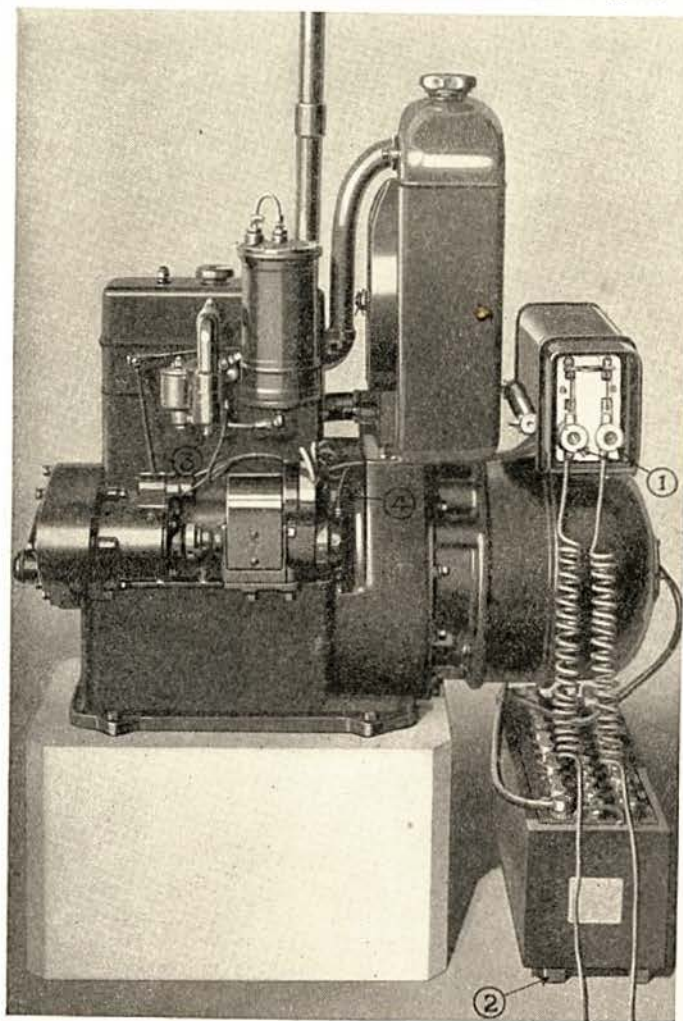

Figure 9
The starting battery should be kept up from the wet and dampness of a basement floor. Place it on strips of wood. (Fig. 9.)
Before making main line connections, make a few coils in the wire to absorb the slight vibration of the engine. (See Fig. 9.)
Two fuses are found on the main line switch. They are there to prevent any damage to the plant or circuit. The plant will not operate if these are removed or burned out. Two extra 25 ampere 110 volt fuses should be kept on hand to replace any which might be burned out. (See Fig. 9.)
1. Disconnect the ground wire on magneto. (See Fig. 9.)
3. If plant is cold, it may be necessary to choke the engine. This is done by holding up the plunger which projects through the choking coil. This should, of course, be released as soon as the engine begins to operate. (See Fig. 9.)